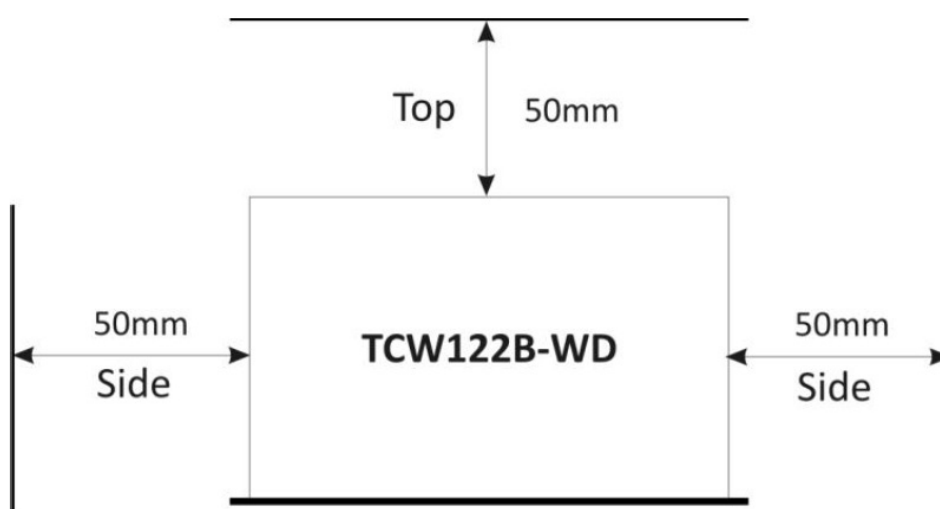

Fig.2
- Maintain spacing from adjacent equipment. Allow 50 mm of space on all sides, as shown in fig.2 in Appendix A, this provides ventilation and electrical isolation.